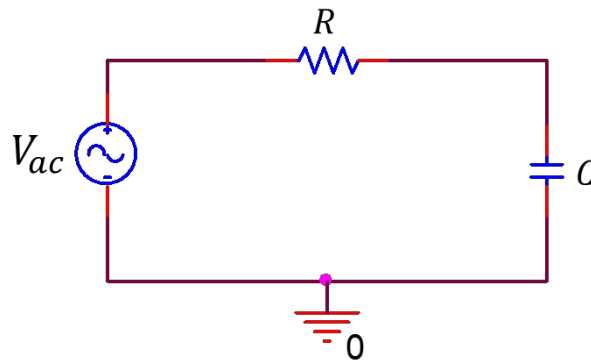

Figure 1. Simple RC circuit for Part 1.
1.1 Connect your function generator to a $20\text{ k}\Omega$ resistor in series with a $0.1\ \mu\text{F}$ capacitor as in figure 1. Set your function generator to produce a 1 V amplitude square wave to charge and discharge the capacitor through the resistor. Using the function generator, add a DC offset of 1 V so that the square wave switches between 2 V and 0 V . Make sure the function generator is set to high Z .